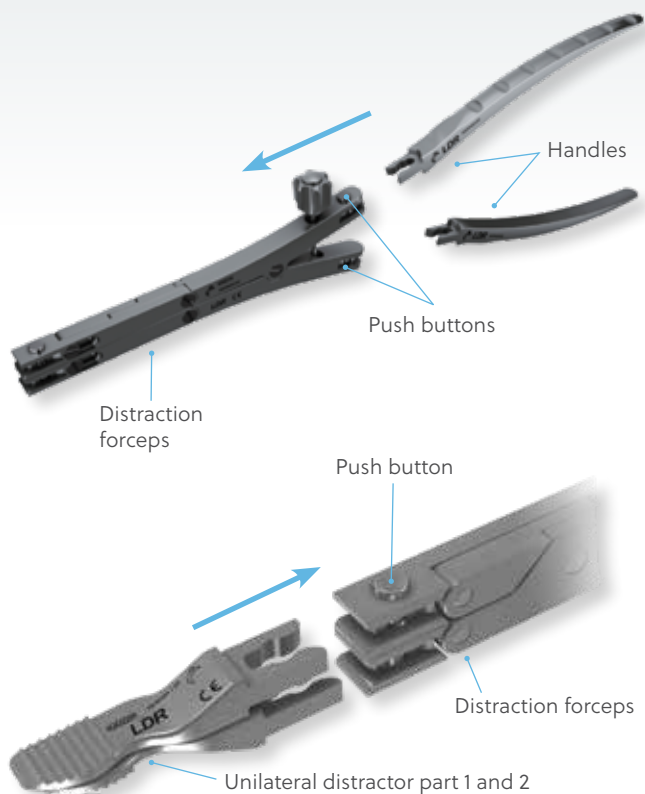

Figure 7
- Assemble the distraction forceps with the handles and unilateral distractor part 1 and 2 by pressing the push buttons (**Figure 7**).